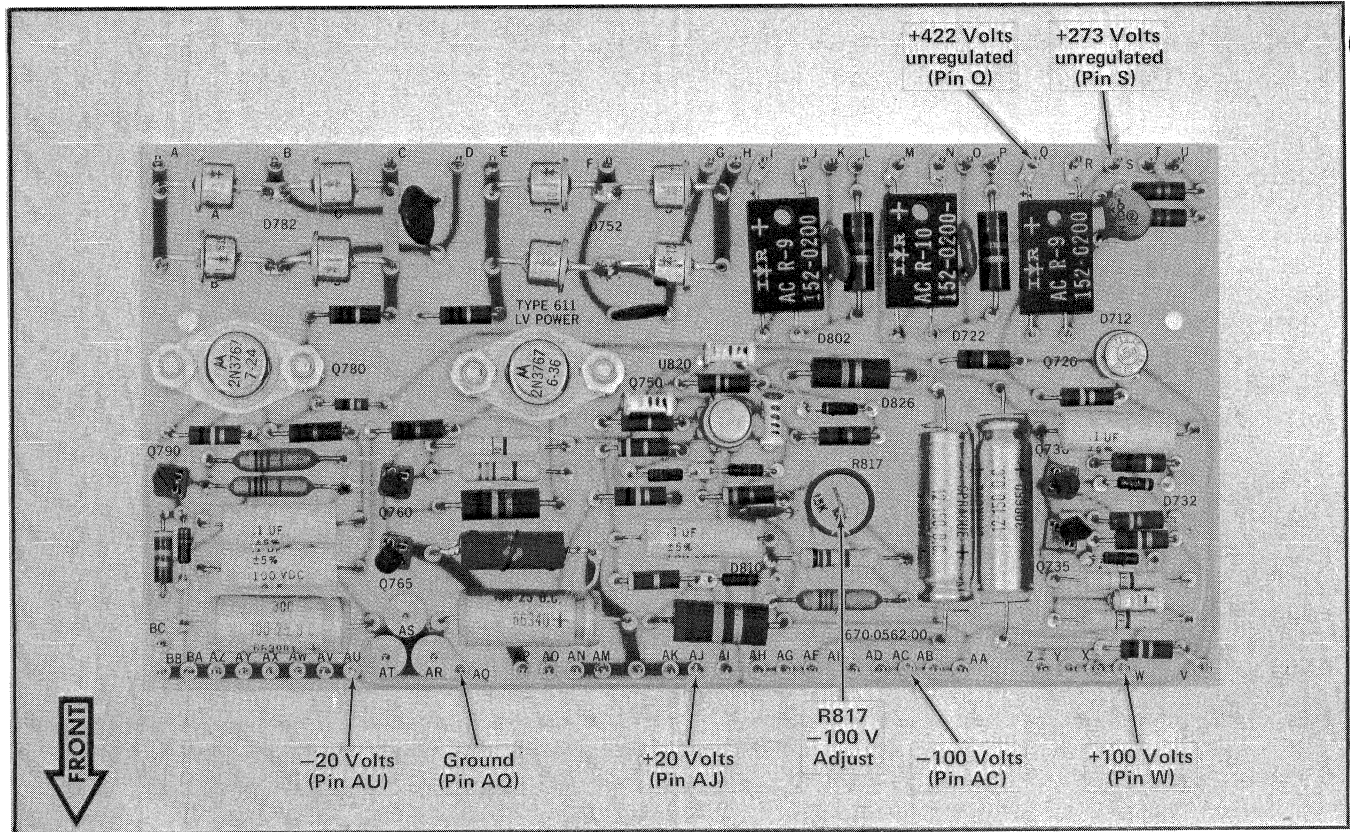

Fig. 5-2. Locations of the low-voltage power supply test points and R817, -100 V adjustment.
- c. Connect the precision DC voltmeter between the –100 volt supply output and ground (Fig. 5-2).
e. ADJUST—R817 (Fig. 5-2) for a voltmeter reading of -100 volts $\pm 0.5\%$.
a. Connect the precision DC voltmeter successively between the output of each low-voltage power supply and ground. See Fig. 5-2 for test-point locations.